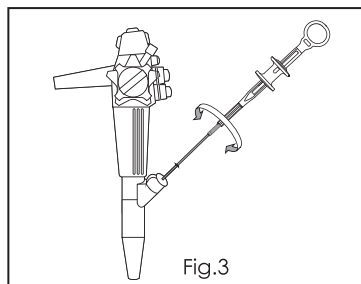

Fig.3
5. Clip can be rotated clockwise or counter-clockwise by slowly turning the handle component until desired position is achieved. During rotation, the handle component and finger ring should be allowed to rotate. (See Fig.3)